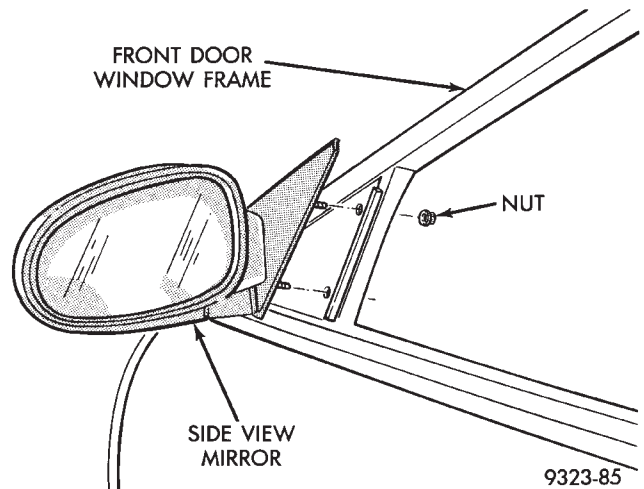

Fig. 29 Side View Mirror
- (1) Remove front door trim panel.
- (2) Remove window frame trim.
- (3) Disconnect power mirror motor wire connector.
- (4) Remove nuts holding side view mirror to door (Fig. 29).
- (5) Separate mirror from door.
- (6) Disengage wire harness plug from door.
- (7) Feed wire harness through door to outside of vehicle.